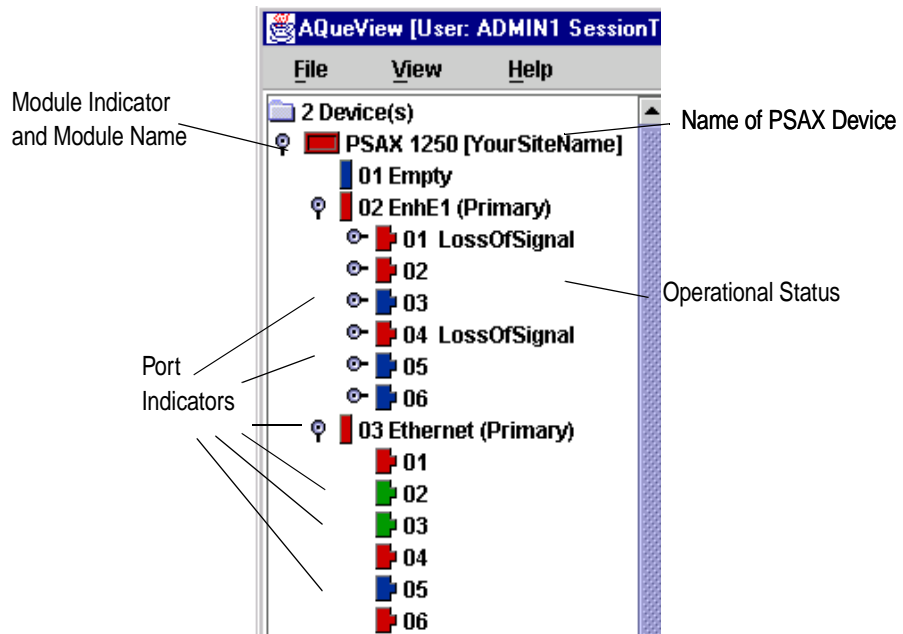

Figure 5-17. Device Tree Status Indicators
- View at the status indicators in the Device Tree (see Figure 5-17)